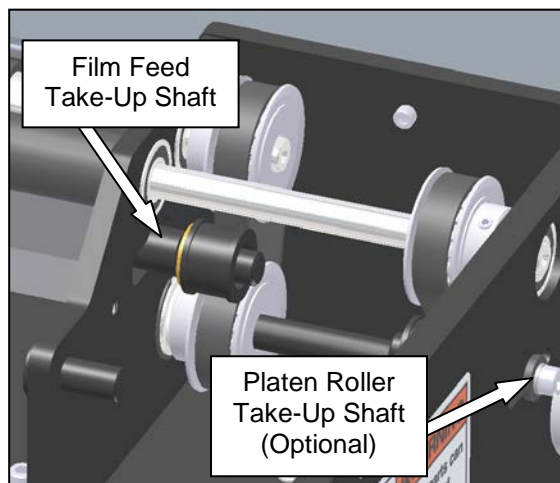

Figure 3-168. Film Feed Belt Take-Up Shaft
2. Loosen the belt take-up shaft to create slack in the belt (Figure 3-168).